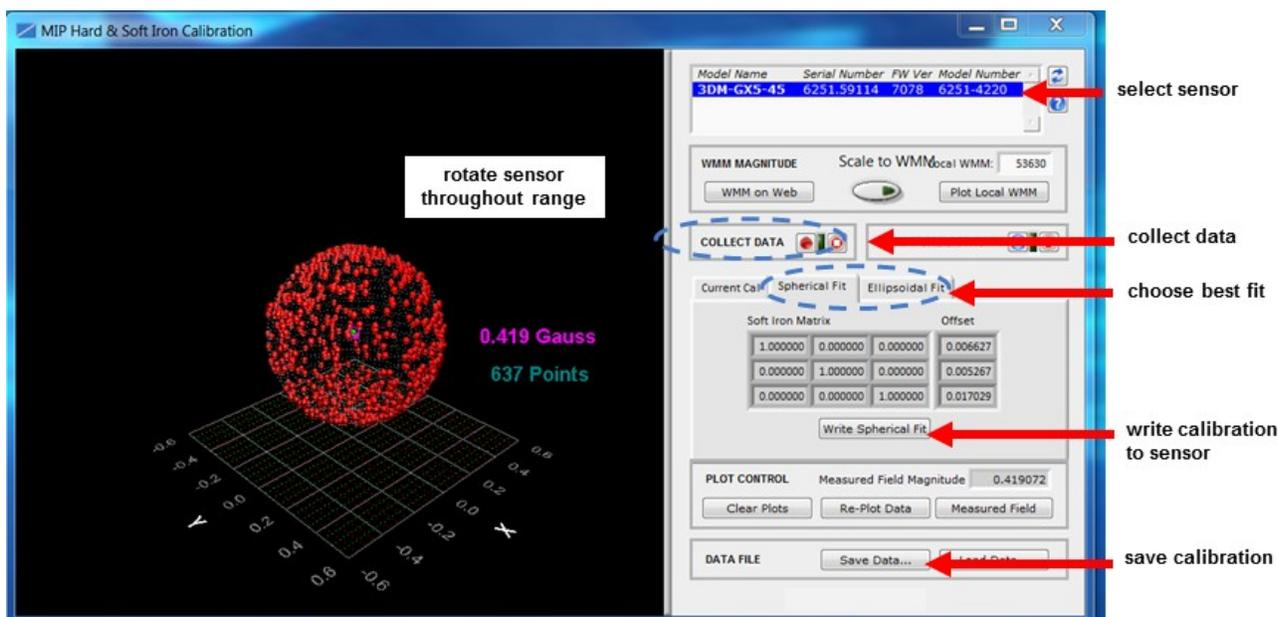

Figure 27 -Collect Calibration Data
- 6 Click the Spherical Fit or Ellipsoid Fit button, depending on the application (*Figure 27 - Collect Calibration Data* ). Spherical Fit is often best for applications with calibration rotations restricted to a 2D plane: for example, a ground vehicle or a boat, because it will not likely not be rotated on all three axis. Ellipsoid Fit is generally a better correction when soft iron effects are present but only if enough data points can be collected in all